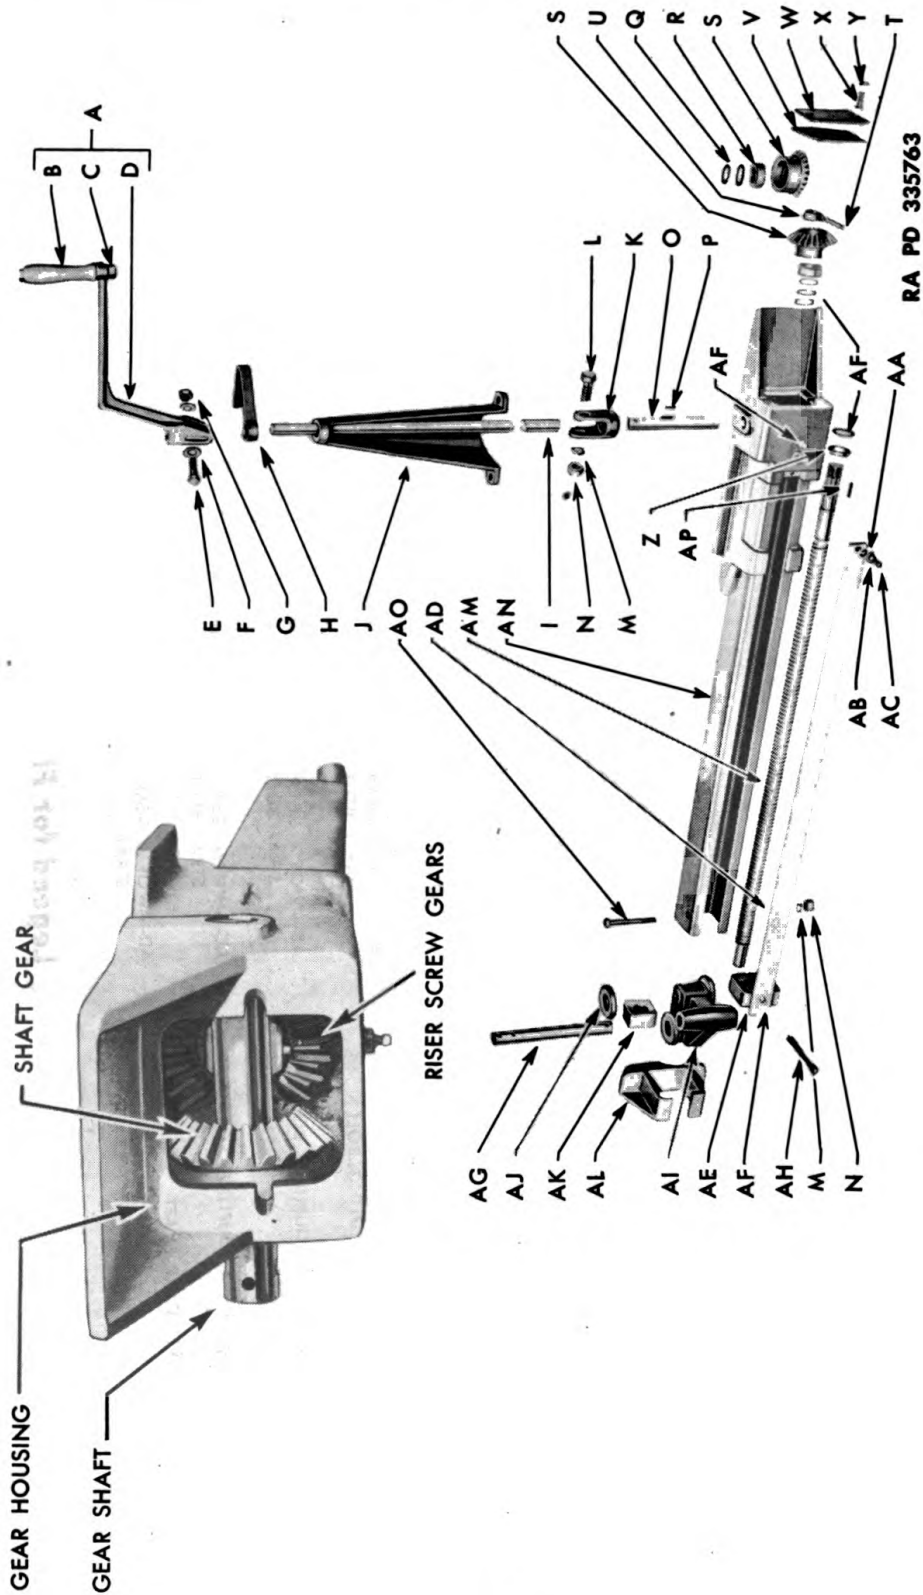

Figure 46—Landing Gear Screw Disassembled
a. **Cleaning.** Wash all parts thoroughly in dry-cleaning solvent. **NOTE:** *Be careful to keep all parts in order to facilitate installation (fig. 46).*
Legend for Figure 46